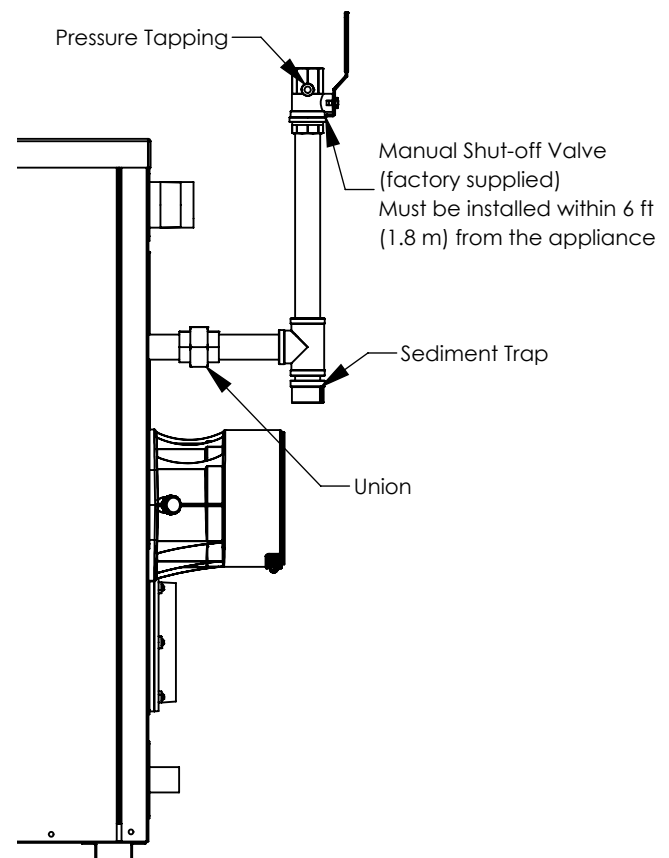

Figure 20: The BFIT 400-1000L Gas Connection
1. A manual shutoff valve is shipped loose with the appliance and should be installed as shown in Figure 20 with a sediment trap.